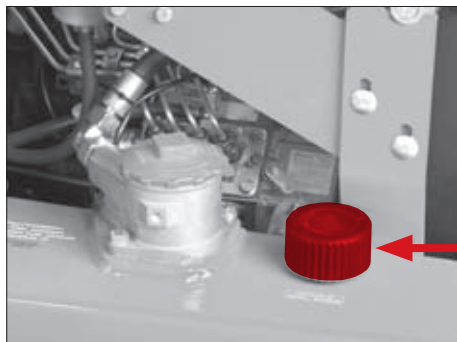
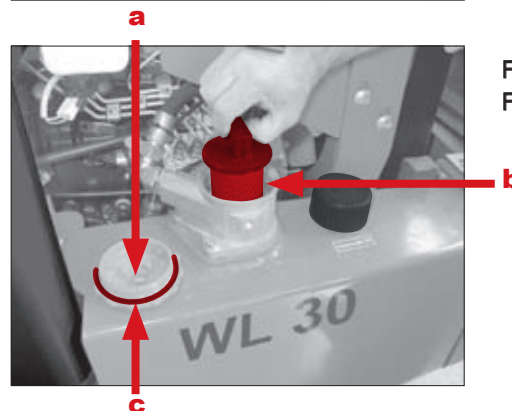

Fig. 83
Fig. 87
The ventilation filter is located on the hydraulic fluid reservoir item 1 (Fig. 83). It ensures that the hydraulic reservoir is ventilated and exhausted when the hydraulic fluid level fluctuates. The air filter contains a filter element which prevents dust and dirt from penetrating and oil spillings from escaping. The air filter has a valve that keeps the reservoir pressure at approx. 0.5 bar (7 psi). This pressure will escape if the hydraulic fluid filler neck is opened.
4. Remove the hydraulic oil filler neck Item 1 (Fig. 83) slightly so that the pressure can escape from the reservoir before removing the cap completely.
11. Close the hydraulic fluid filler neck item 1 (Fig. 83).
Use the correct oil grade (reference Section 10.6, page 155 »Specifications and filling quantities«). Open the hydraulic oil filler neck cap Item 1 (Fig. 83) carefully so that the pressure can escape from the reservoir.
1. Open the hydraulic fluid filler neck cap Item 1 (Fig. 83).
5. Close the hydraulic oil filler neck cap Item 1 (Fig. 83).
1. Remove the filter insert Item b (Fig. 87).
5. Add hydraulic oil into the hydraulic oil filler neck Item 1 (Fig. 83) until the oil level has reached the »Maximum« mark.
Replace the filter element of the return filter Item b. (Fig. 87) during inspections or if the indicator light for the return filter on the instrument panel is illuminated between inspection intervals.
Let the pressure from the hydraulic fluid reservoir escape by opening the hydraulic fluid filler neck cap Item 1 (Fig. 83) before you unscrew the cover of the filter housing Item a (Fig. 87). Otherwise, hydraulic fluid will be forced out of the filter housing and could get into the environment.
5. Remove the cover of the filter housing Item 1 (Fig. 87).
6. Remove the filter element item b (Fig. 87).
8. Check the gasket Item c (Fig. 87): Replace the gasket if it is damaged.
9. Screw on the cover of the filter housing Item a (Fig. 87).
10. Close the hydraulic oil filler neck Item 1 (Fig. 83).